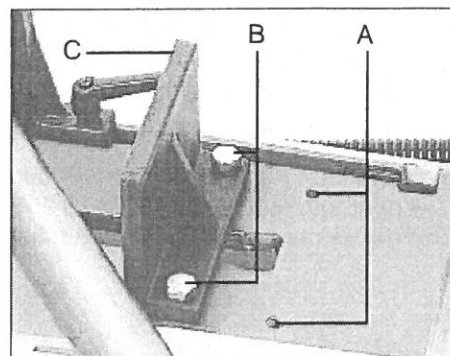
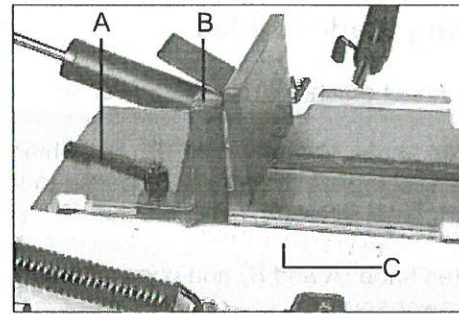

Fig. 8
Fig. 9
1. Remove the 2 Bolts (B, Fig. 8).
2. Reposition the fix vise-jaw (C, Fig. 8) to align with the secondary holes (A, Fig. 8).
3. Tighten two screws to fixed vise-jaw (C, Fig. 8) after squaring vise with blade.
1. Free the independent vise-jaw B. Loosen the spring ratchet handle\* (A, Fig. 9).
2. Set the cutting angle. Move the independent vise-jaw (B, Fig. 9) until its index reaches the desired cutting angle on the degree scale (C, Fig. 9).
3. Lock the vise-jaw. Tighten the spring ratchet handle\* (A, Fig. 9).
5. Load work piece. Place the work-piece against the fixed vise-jaw (C, Fig. 8) and independent vise-jaw (B, Fig. 9).
\* Spring ratchet handle (A, Fig. 9) only tightens or loosens when handle is down or normal position. Lift the handle to reposition it without screwing action.